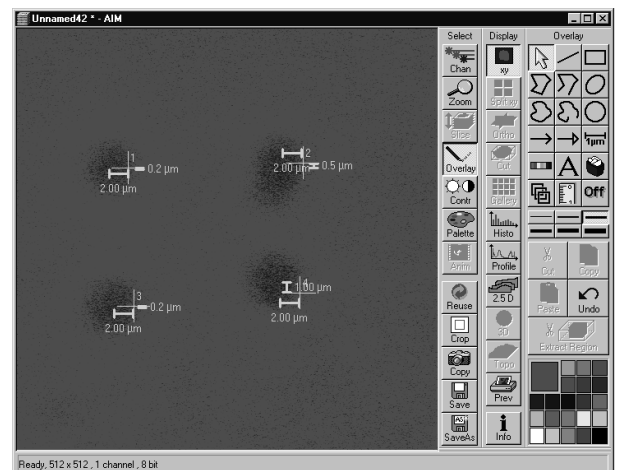

Fig. 4-95 LSM image after bleaching with overlaid distance markers
- Measure the distance between the burned spots and the markers (see Fig. 4-95).